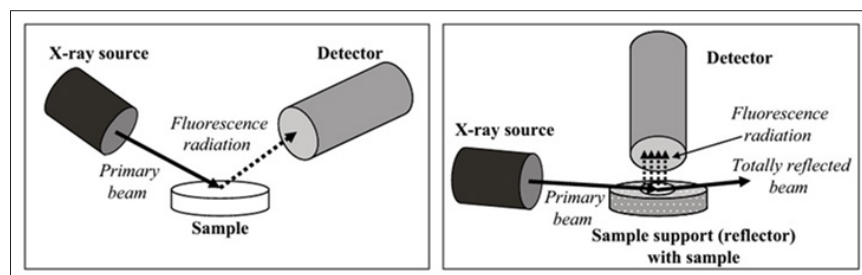
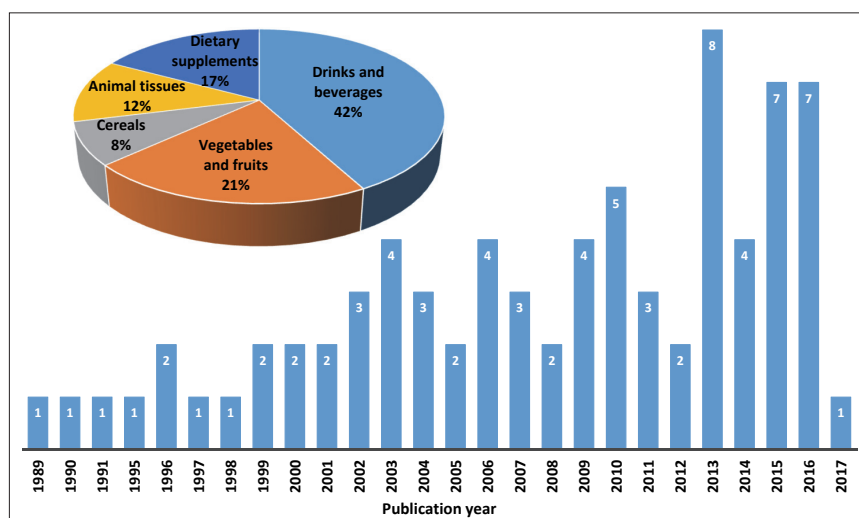

Figure 1. Instrumental setup for conventional XRF (left) and TXRF (right).
Figure 2. Number of publications related to TXRF analysis of foodstuff and the fields of application (source ISI Web of Knowledge).
**Figure 2.** Visual and NIR images of strawberry motif. The grey scale of the NIR image represents score values of the fourth principal component.**Figure 1.** Visual and NIR images of the self-designed paper collage. The grey scale of the NIR image represents absorbance at 1300 nm.
Figure 1 shows the visual image and the grey colour-coded NIR image of the paper collage. The different grey colours of the NIR image represent different grades of reflection of the NIR radiation
In the strawberry motif of the NIR image, some printed text is already discernible on the back of the piece of paper. The German text is rendered legible by using the fourth principal component of a PCA and changing the orientation of the characters (Figure 2).
TXRF is a variation of energy dispersive XRF spectrometry (EDXRF). It differs from EDXRF mainly in the experimental setup geometry. An angle lower than 0.1° is required in TXRF in order to obtain the reflection of the whole beam on the reflector, instead of the conventional angle of 45° , as illustrated in Figure 1.
The first paper about elemental analysis of foodstuff by means of TXRF dates back to 1989. The number of publications in this field has increased during the last ten years. Today, TXRF is emerging as a powerful tool for food analysis, especially where a holistic approach is followed. Drinks, beverages, vegetables, fruits, herbs, spices, cereals, animal derivatives and dietary supplements as foodstuff samples have been analysed by TXRF for safety and quality purposes. Figure 2 shows the trend of publications related to TXRF analysis of foodstuff and the percentages of the fields of application. In this paper we will focus on some examples of TXRF analysis of seafood, vegetables and honey, considering sample preparation procedures and methods developed to obtain accurate and reliable results.